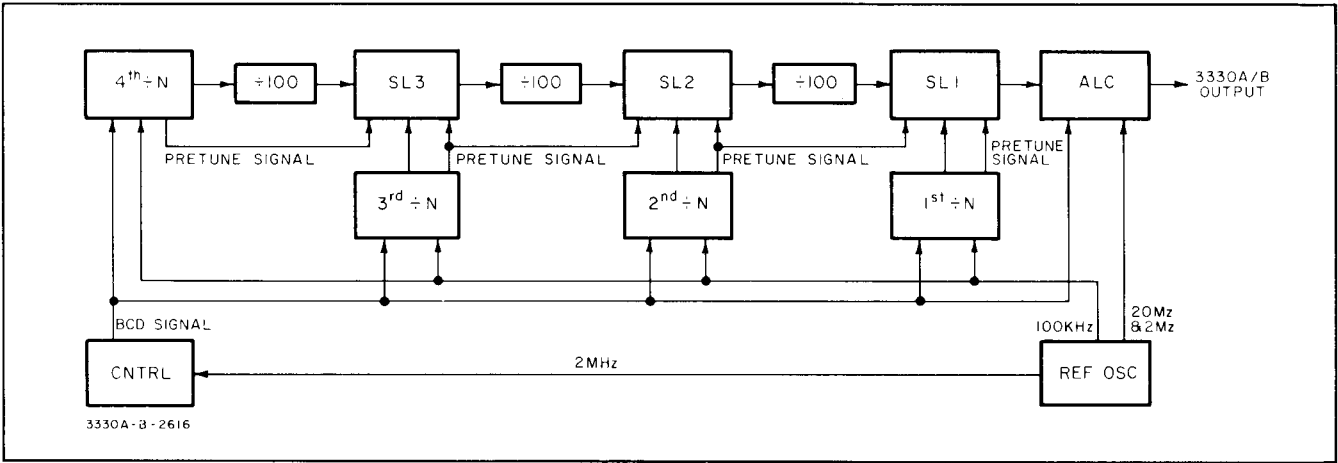

Figure 4-3. Basic Block Diagram.
4-12. The frequency generation section of the 3330A/B is composed of four phase-locked divide ($\div N$) loops and three phase-locked summation (SL) loops (see Figure 4-3). The output frequency is variable from 20,000,000.0 Hz to 33,000,999.9 Hz. The digits of the output frequency are controlled by the $\div N$ loops and effectively summed in the
4-16. SL Loop. Each of the three SL loops consists basically of a divide-by-100 circuit (\div 100), a Phase Monitor, a Phase Detector, a Summing Amplifier, a VTO and a Mixer (see Figure 4-5). There are two pretune signals for each SL loop VTO. These signals are the analog signals from the \div N loop D/A that sets the \div N loop VTO (see Figures 4-3 and 4-4). The two pretune signals for the SL3 loop are from 4th \div N loop D/A and the 3rd \div N loop D/A. The two pretune signals for the SL2 loop are from the 3rd \div N loop and the 2nd \div N loop. The two pretune signals for the SL1 loop are from the 2nd \div N loop and the 1st \div N loop. These pretune signals set the SL loop VTOs within approximately 100 kHz of the desired frequency.